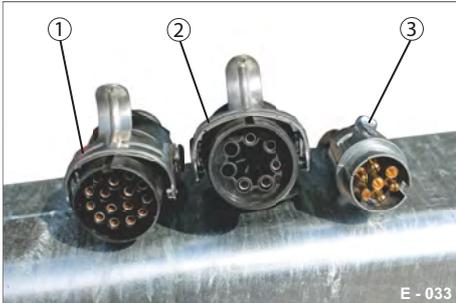

Fig. 18 12 V - 24 V plug
- ▶ Connect the electrical system plug (Fig. 18/1 or 3) and the corresponding EBS plug (Fig. 18/2) for 12 V or 24 V to the towing vehicle.